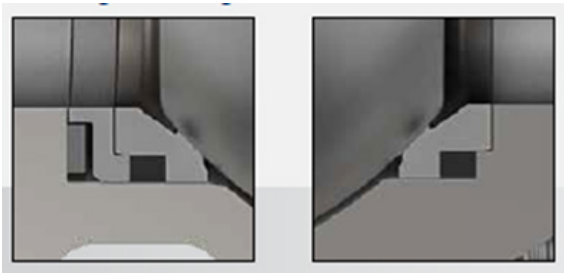

Figure 6
15. Insert S-ring (#42) into the body part (#1) over the wave spring (#41). Keep orientation of S-ring as shown in Fig.6.
1. Using padlock with 8 mm shank, insert shank thru the elongated hole in locking plate and hole under pull ring (Figure 6).